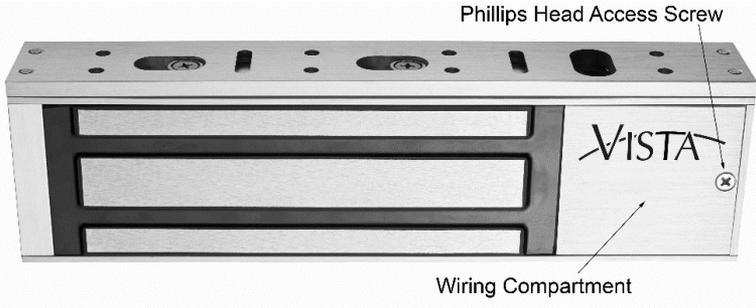

Figure 1. Wiring Compartment
2. **IF** a change is required, **THEN ACCESS** the wiring compartment by removing the wiring compartment Phillips head screw and cover (see Figure 1, "Wiring Compartment"), **AND TOGGLE** the 12V/24V slide switch to the desired position.